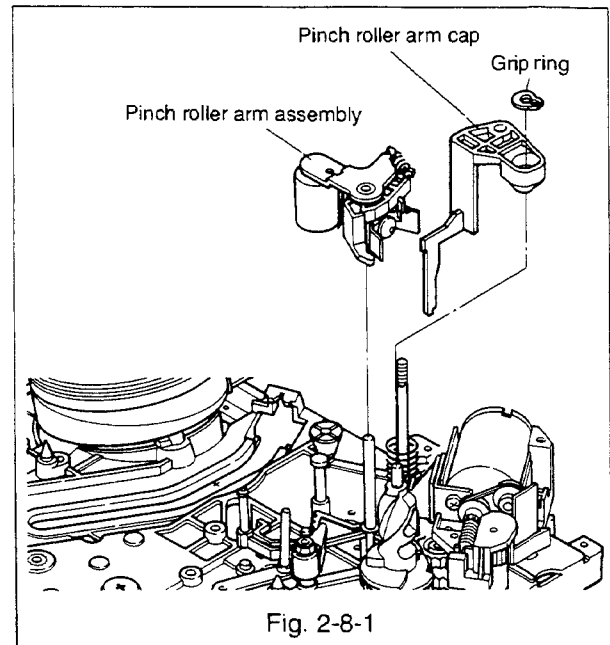

Fig. 2-8-1
2-8-1 Removal(Refer to Fig. 2-8-1, 2-8-2.)
- B. Remove the pinch roller arm cap and the grip ring which secures the pinch roller arm assembly.(Refer to Fig. 2-8-1.)
2-8-2 Installation(Refer to Fig. 2-8-1,2-8-2.)
- B. Assemble the pinch roller assembly to the shaft on the main plate.(Refer to Fig. 2-8-1.)